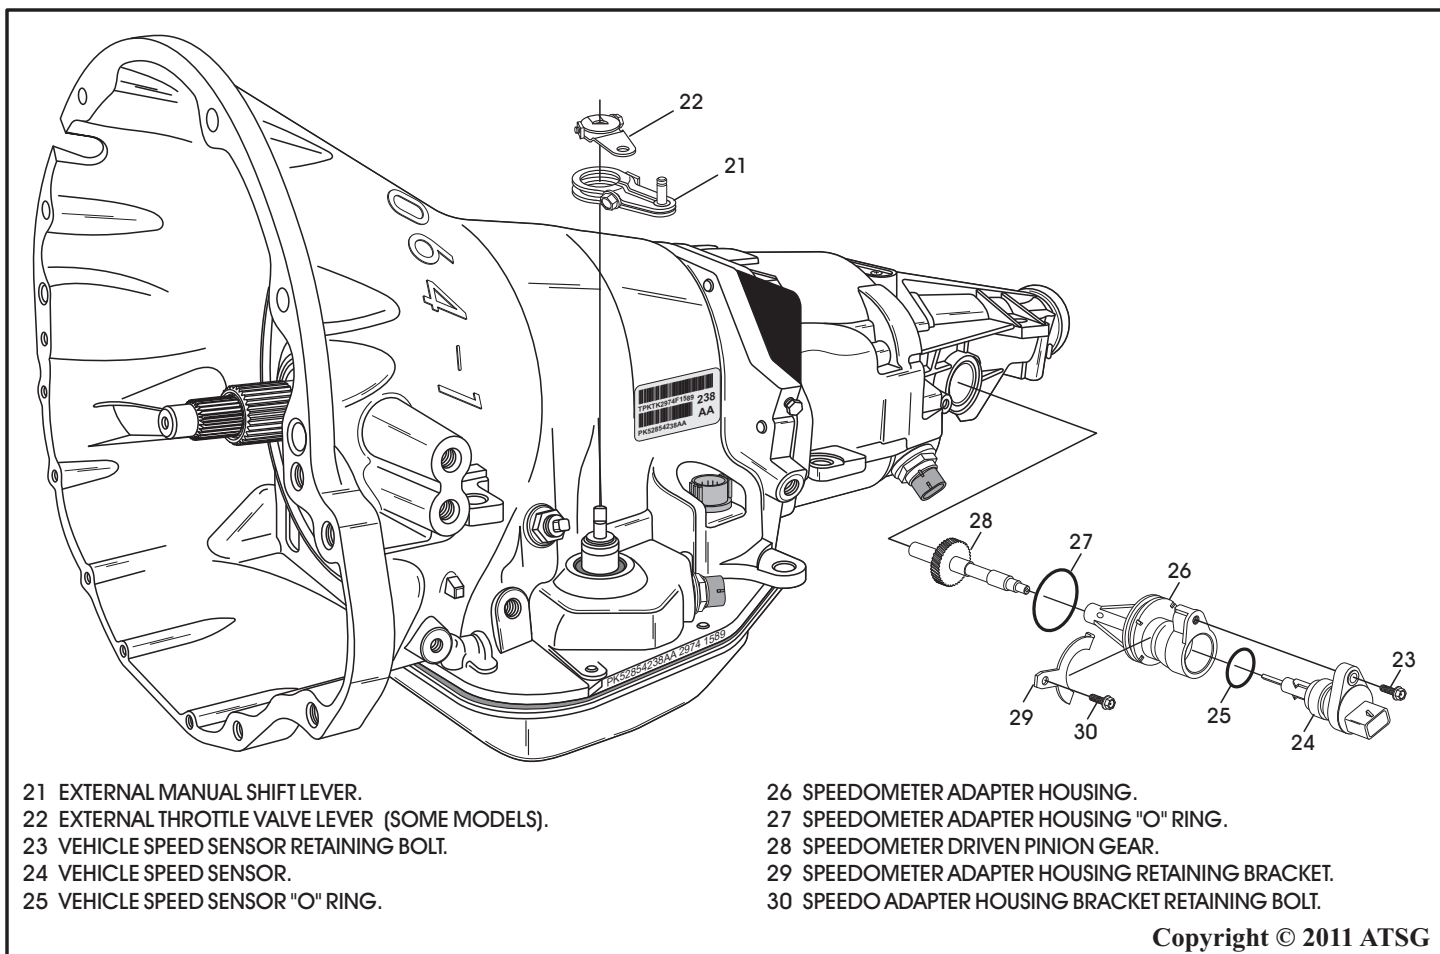

Figure 64
11. Remove the external throttle shaft lever (if used), as shown in Figure 64.
12. Remove external manual shaft lever, as shown in Figure 64.
13. Remove the vehicle speed sensor, speedometer adapter and the speedometer gear, as shown in Figure 64.